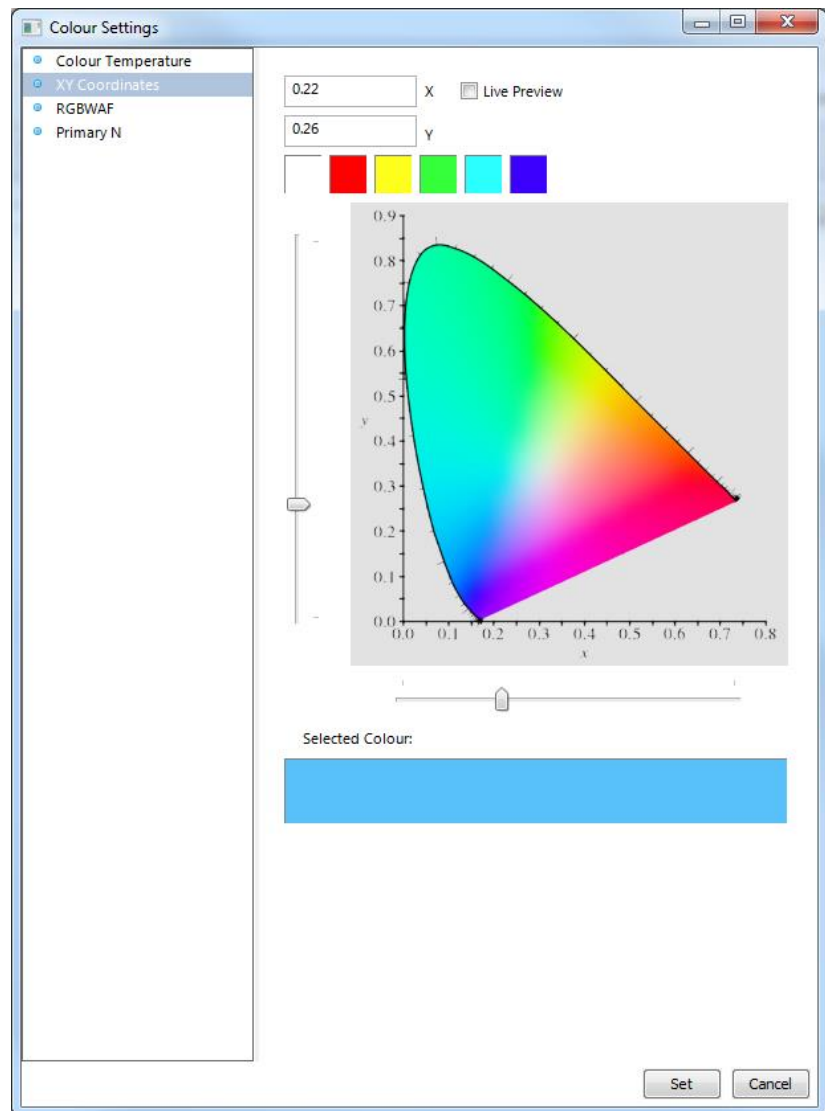

Figure 198: Scene colour selection for devices supporting colour type XY Coordinates.
When clicking on the  button a colour picker dialog as shown in Figure 198 appears. The left side of the dialog shows the colour type(s) supported by the ballast. For ballasts supporting multiple colour types, first choose the appropriate type. Depending on the selected type the colour information is configured as follows:
- **XY Coordinates** (see Figure 198): This colour type allows choosing a colour in the CIE 1931 colour space. Either manually enter the x and y coordinate of the scene colour within CIE 1931 colour space or pick the colour by clicking in the colour diagram on the left side of the dialog. The last six colour values used are shown in the history below the colour diagram for quick reference.